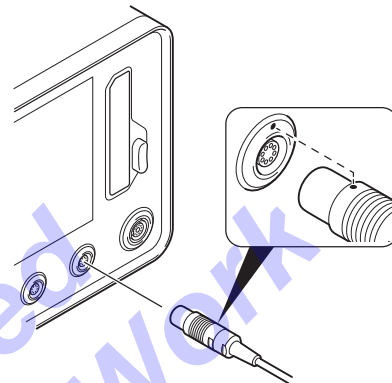

Figure 73 – Wired Foot Pedal Connection
- ALWAYS use the connector alignment mark(s) to orient and install cable connectors into console port(s) (Figure 73).
1. If using a wired foot pedal, install the foot pedal cable connector into the console foot pedal port (Figure 73).